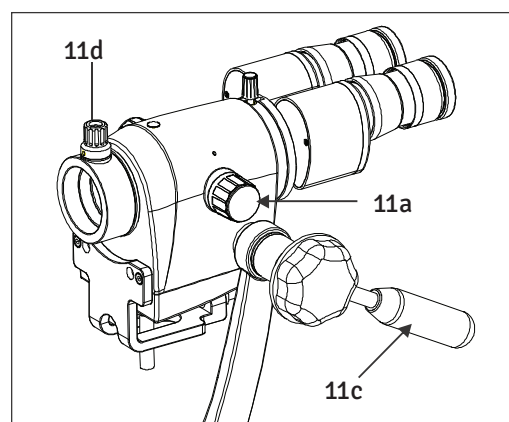

Fig. 13
### SETTING UP OF MAGNIFICATION (Ref. Fig. 13)
2. Fine focusing is done by knob provided on CMO shown as (11d) in fig. 13.